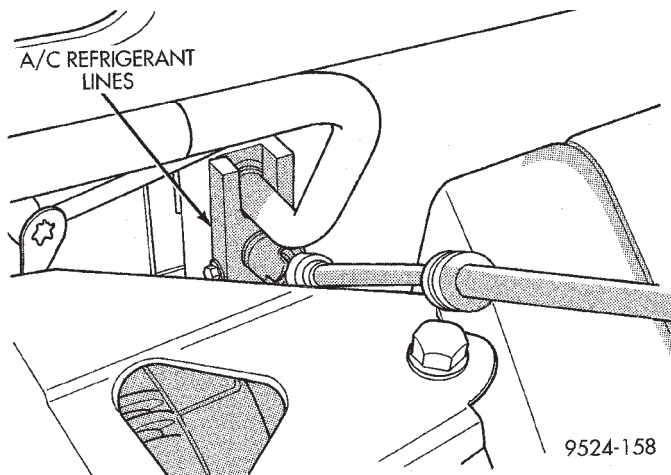

Fig. 39 A/C Refrigerant Line Plate
- (1) Disconnect the battery negative cable.
- (2) Recover A/C system refrigerant.
- (3) Remove the accessory drive belt.
- (4) Remove upper generator bracket.
- (5) Disconnect generator field wire connector.
- (6) Push generator forward.
- (7) Remove ground wire at dash panel.
- (8) Remove the nut retaining the refrigerant line sealing plate to the expansion valve (Fig. 39).